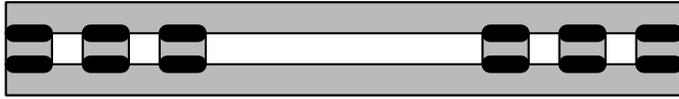

Figure 5: welding of hame cross bar.
- 5) Make up the hame cross bar shown in Figure 5.